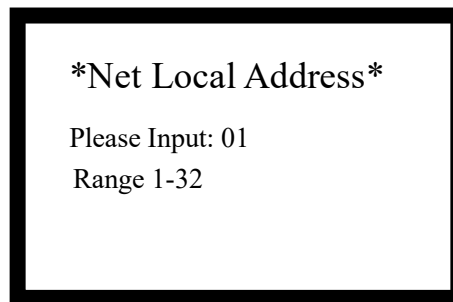

Fig. 6-42
- ✧ You can set the panel's network address by entering number 1, as shown in Fig. 6-42.